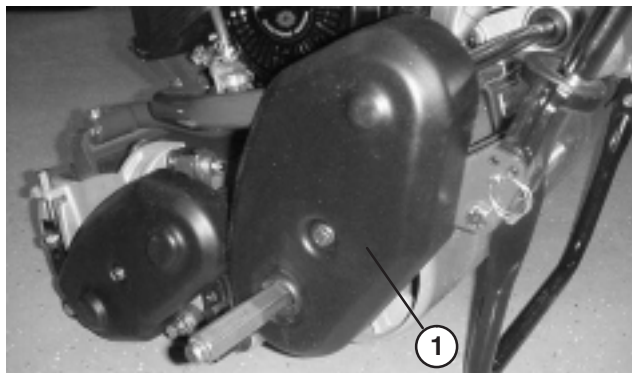

Figure 44
1. Remove belt cover mounting fasteners and belt cover to expose belt (Fig. 44).